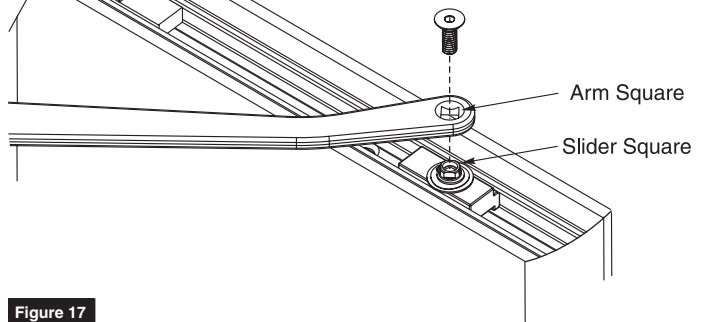

Figure 17
3. Align slider square with arm square and connect using 1/4-20 x 1/2" machine screw. (Figure 17)